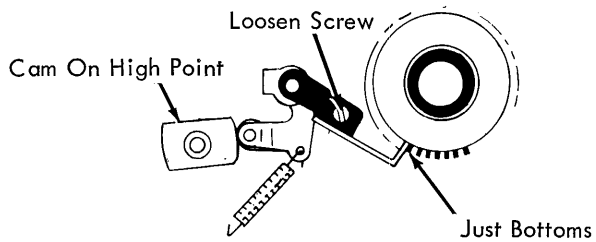

FIGURE 71A. Shift Interlock
- a. 15 Inch Machine - With the shift interlock on the high point of the cam, adjust the interlock by its adjusting screw so that the tip just bottoms between two teeth on the shift clutch ratchet (Fig. 71a).